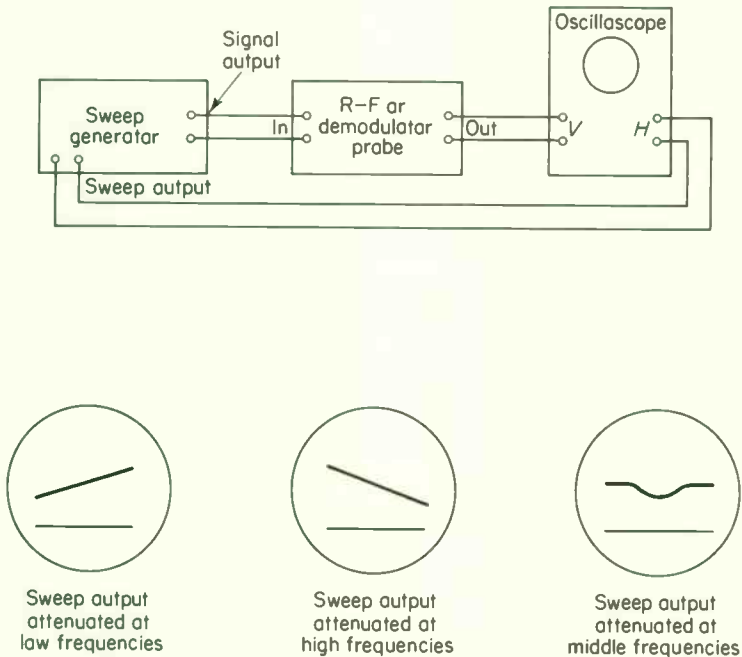

Fig. 8-2. Checking sweep generator output uniformity.
1. Connect the equipment as shown in Fig. 8-2.
The RF or demodulator probe shown in Fig. 8-2 can be omitted if the sweep generator output signal frequency is within the pass-